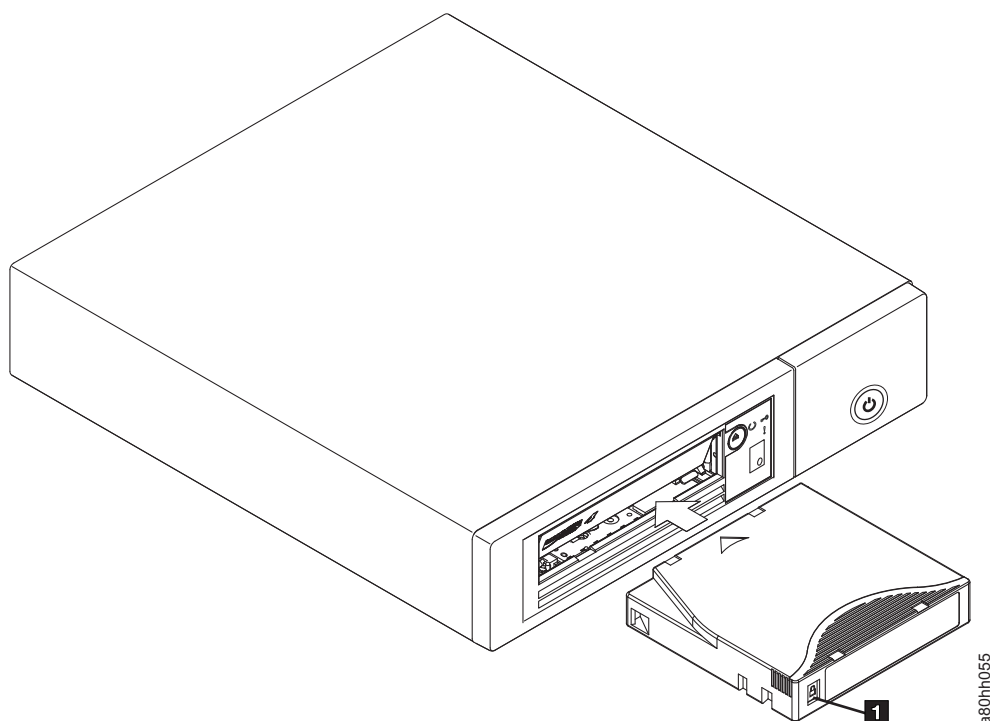

Figure 3-1. Inserting a cartridge into the drive
3. Grasp the cartridge so that the write-protect switch faces you (see **1** in Figure 3-1).